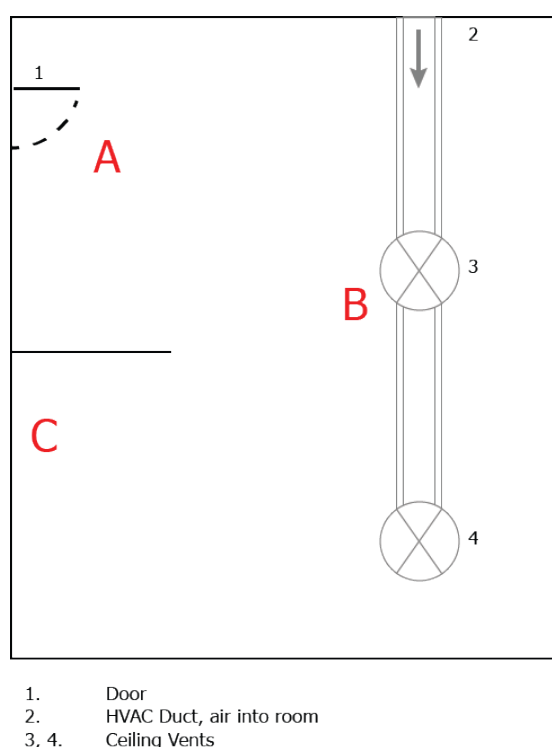

Figure 27 Room Measurement Example
1. **Dew-Point Sensor position** – Will the sensor see an area of the environment that is representative of what you want to measure? For example; you are looking to measure the Relative Humidity of a room which is controlled by an HVAC vent at either end (see Figure 27) you will get very different readings depending on whether the sensor is positioned at point A, point B or point C. Point C provides the most representative sampling point given that it won't be disturbed by the vent or the door.